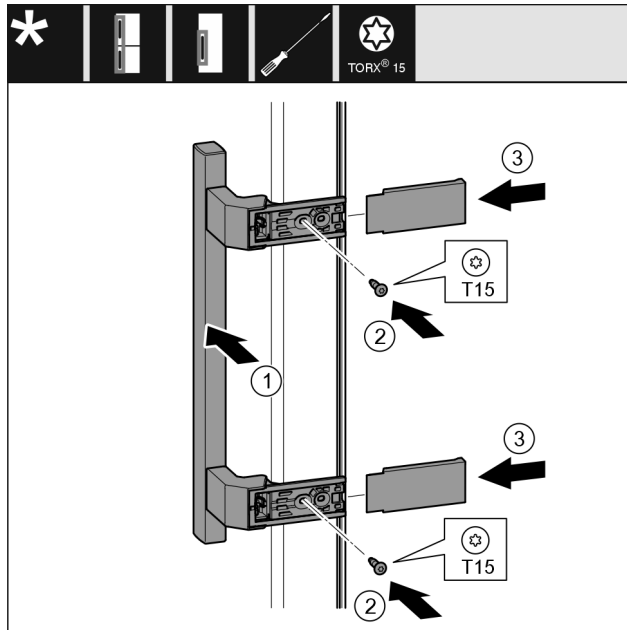

Fig. 43
- Place the handle *Fig. 43 (1)* on the opposite side.
- Tighten screws *Fig. 43 (2)* with screwdriver.
- Place the covers *Fig. 43 (3)* on the side and push them on.